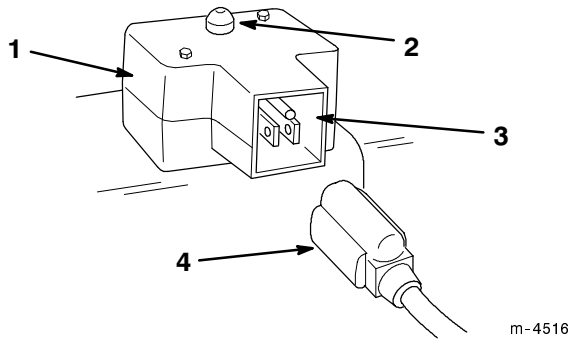

Figure 23
- **Electric Starter** (Fig. 23)—Push the starter button to start the engine.
- **Power Cord** (Fig. 23)—Connect the power cord to the electric starter and to an electrical outlet before starting the engine.
- A. Connect the power cord to the snowthrower (Fig. 23) and to a standard household power outlet.